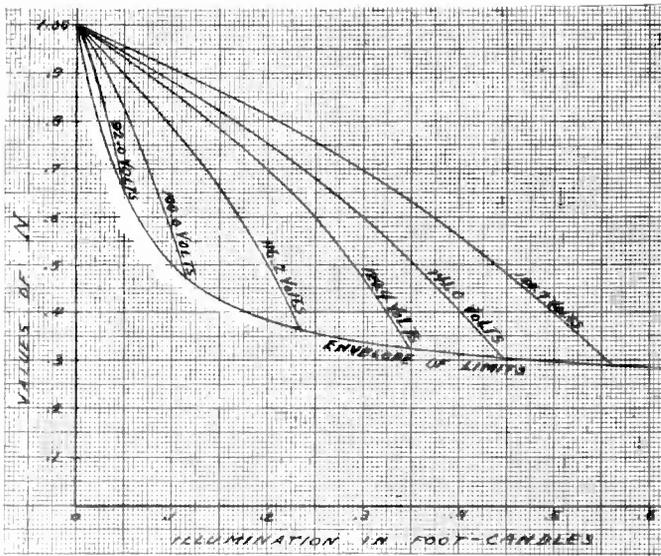

FIG. 4
Fig. 4 illustrates the characteristics indicated in point (6) with respect to the applied potential. It is clearly seen that as the potential increases, the corresponding values of the frequency ratio (N), decrease, indicating a greater frequency change. The frequency ratio (N) is the ratio of a given frequency to the frequency under zero illumination. A very interesting curve is obtained by joining the values of the frequency ratios (N) at the limiting values of radiation at different voltages. This curve, indicated in Fig. 4 as the envelope of limits, is very nearly an equilateral hyperbola.
Fig. 4 also shows that the sensitivity decreases as the potential is increased, as stated in point (5).
The characteristic indicated in point (4) is brought out in a striking manner by the following determinations: with an applied potential of 139.2 volts, in order to decrease the frequency to 75 percent of its value under zero illumination, and with 27.0 megohms value for the resistance 5, it is required an illumination of 0.198 foot-candles, as obtained from Fig. 4. With the same voltage of 139.2, but with a resistance value of 11.9 megohms, the required illumination for the same decrease in frequency (to 75 percent of the dark value) is of 0.439 foot-candles. Under the same conditions, if the resistance is further lowered to 9.2 megohms, the required